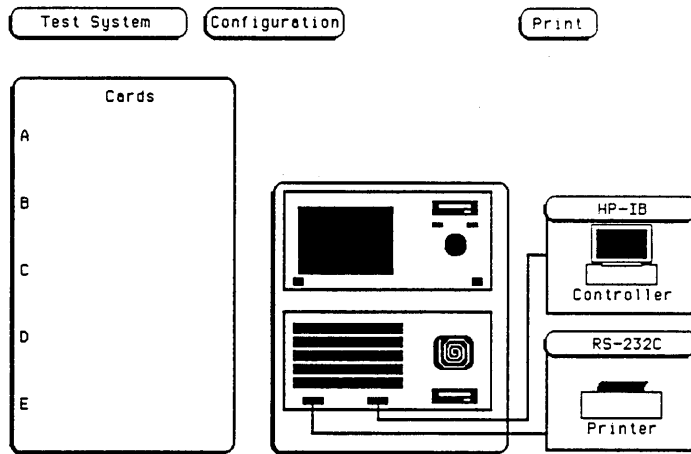

Figure 4-4. Test System Configuration
4. After the Test System has been loaded from the disc, the Test Configuration will be displayed (see figure 4-4).